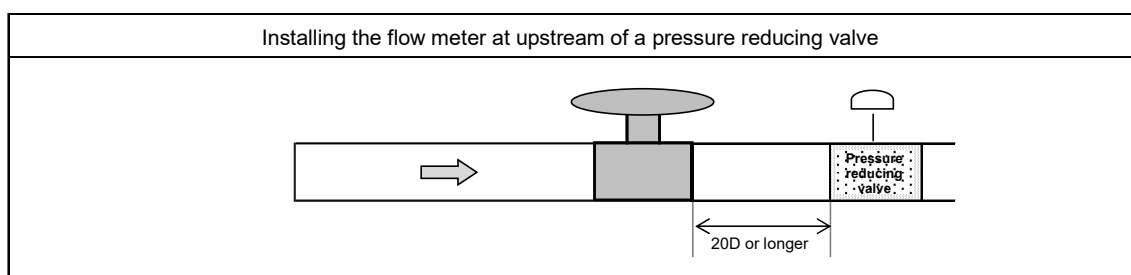

Fig. 3-2 Recommended straight pipe lengths 2 (D: gauge)
- 3) Because ultrasonic noise can be produced inside the pipes if the meter is installed near a pressure reducing valve or flow control valve, make sure to comply with the "required straight pipe length L" shown in Fig. 3-2 below.